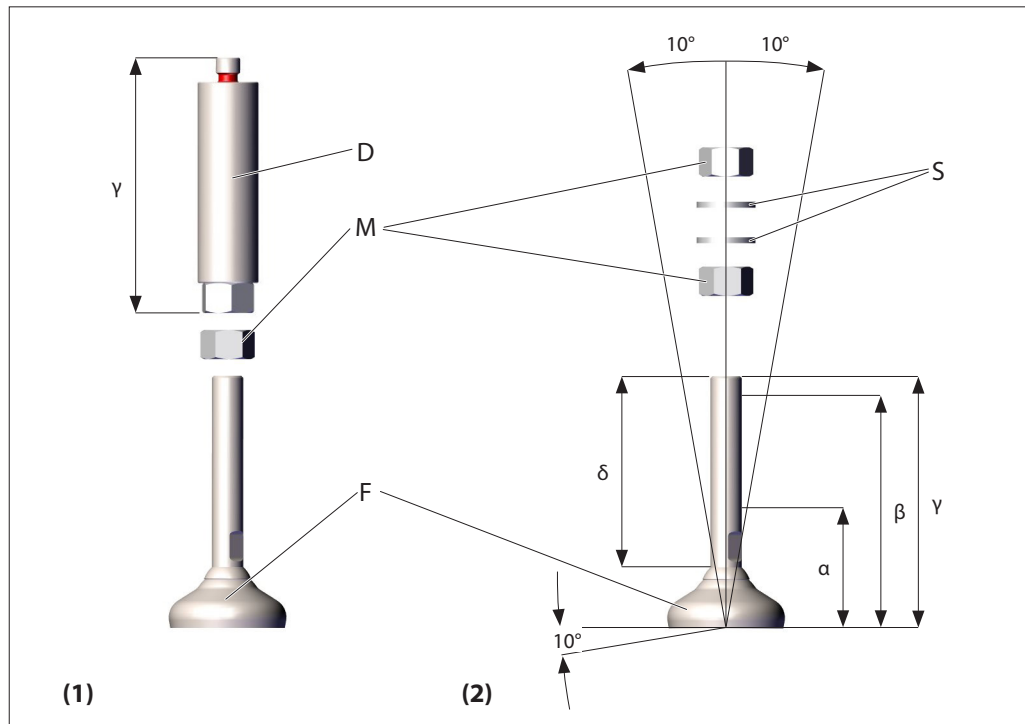

Fig. 5.1: Standard articulated foot – O-ring on spacer is not shown
- ▶ Use a nut and spacer under the pump housing to fit the standard articulated foot (see Fig. 5.1 (1))
- ▶ Under the motor traverse drive and the standard articulated foot (see Fig. 5.1 (2))
- ▶ Use standard articulated foot with two nuts and two washers each (see Fig. 5.1 (2)):